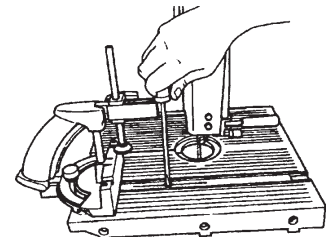

Figure A-16
4. Use a medium Phillips screwdriver to adjust the tension of each of the five screw (94) which attach the T-slot extrusion to the table, as shown in Fig. A-16. The tension should be such that the miter gauge will both travel freely in the T-slot and have a snug fit. After adjusting the screws, replace the expansion screw in the miter gauge guide bar.